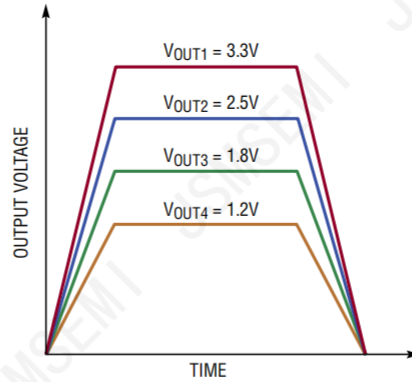
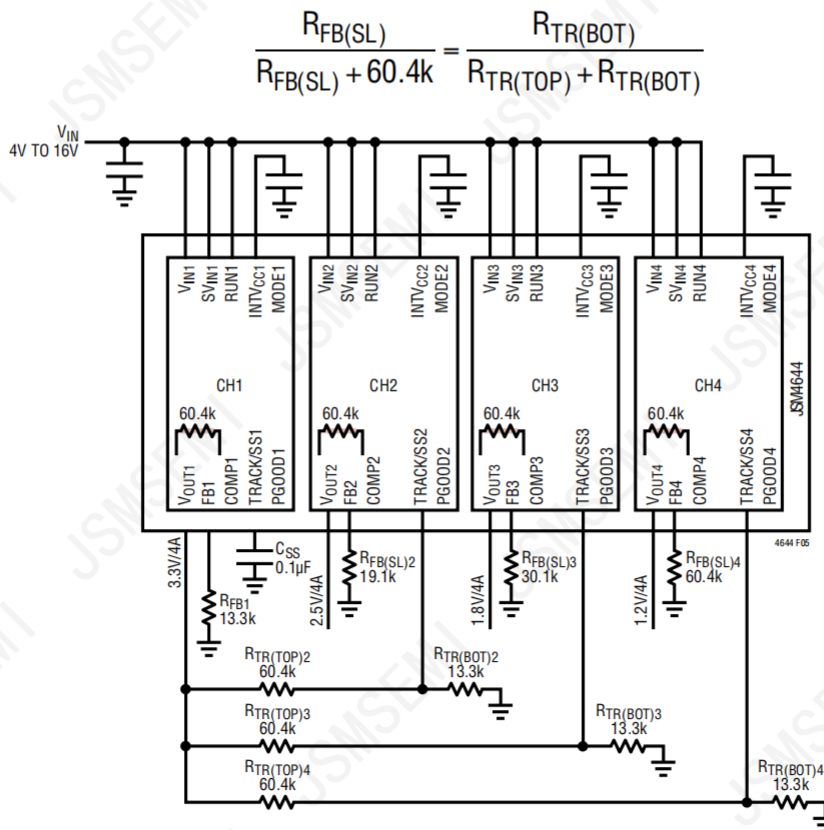

Figure 21. Output Ratiometric Tracking Waveform
Figure 22. Output Ratiometric Tracking Schematic
Output voltage tracking can also be programmed externally using the TRACK/SS pin of each regulator channel. The output can be tracked up and down with another regulator. Figure 21 and Figure 22 show an example waveform and schematic of a ratiometric tracking where the slave regulator's (VOUT2, VOUT3 and VOUT4) output slew rate is proportional to the master's (VOUT1).
Where the 60.4k is the integrated top feedback resistor and the RFB(SL) is the external bottom feedback resistor of the JSM4644. The RTR(TOP)/RTR(BOT) is the resistor divider on the TRACK/SS pin of the slave regulator, as shown in Figure 22.
Forexample, $V_{OUT(MA)} = 3.3V$, $MR = 3.3V/24ms$ and $V_{OUT(SL)} = 1.2V$, $SR = 1.2V/24ms$ as V_{OUT1} and V_{OUT4} shown in Figure 22. From the equation, we could solve out that $R_{TR4(TOP)} = 60.4k$ and $R_{TR4(BOT)} = 13.3k$ is a good combination. Follow the same equation, we can get the same $R_{TR(TOP)}/R_{TR(BOT)}$ resistor divider value for V_{OUT2} and V_{OUT3} .